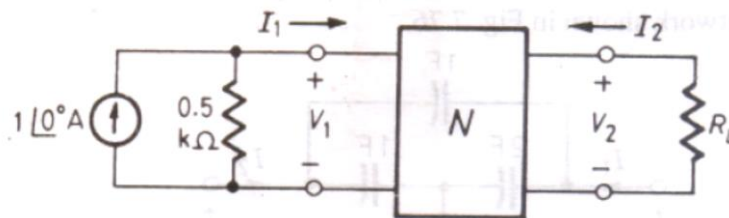

Fig. 7.79
14. The block N of the network shown in Fig. 7.79 has following z-parameters :